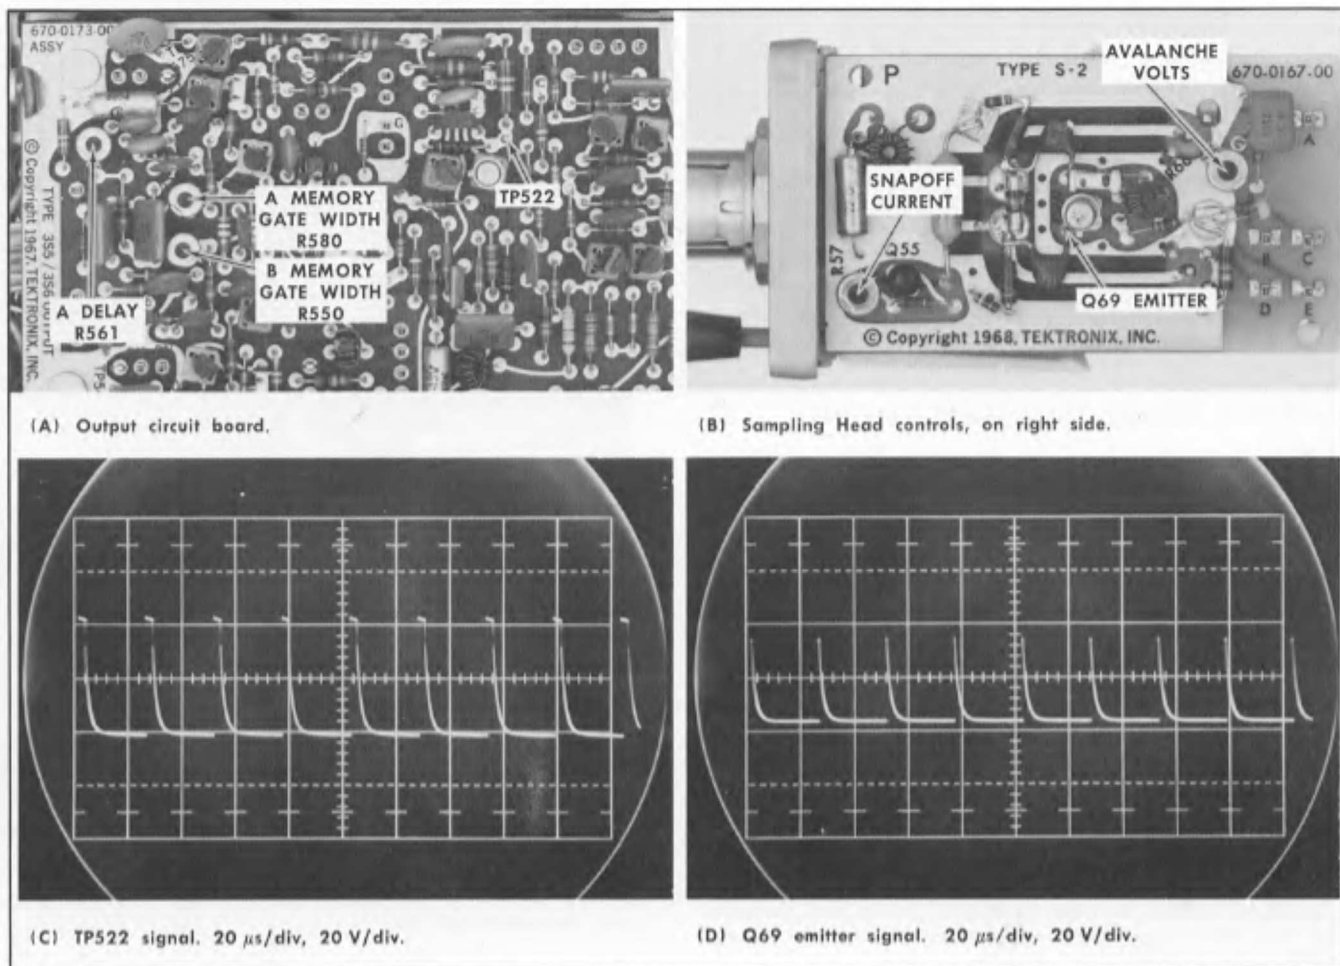

Fig. 7-4. Gate Generator and Sampling Head Avalanche operation.
f. Locate R580, the A Memory Gate Width control (see Fig. 7-4) and adjust it for an indicator oscilloscope display of maximum loop gain. Adjust R580 while observing both the top and bottom flat portions of the display. The final position is when any plus or minus loop gain non-linearity is minimum, not just maximum loop gain at the display top. The test oscilloscope display is at maximum amplitude for maximum loop gain.
Gate Width control (see Fig. 7-4) and adjust it for the maximum loop gain as in part f.